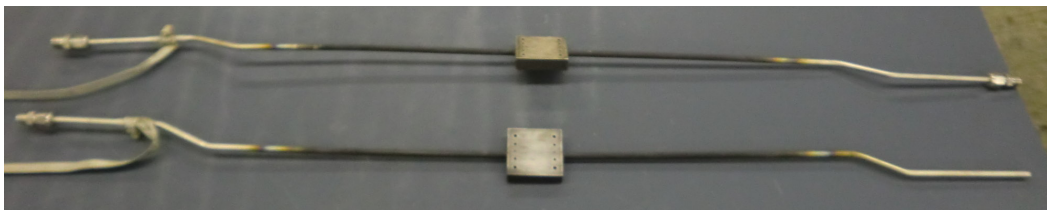

Figure 6
4. Before first use with a cell, the manifolds should be fired to the intended test operation temperature for approximately two hours in order to burn out any residues from manufacturing and to create a protective oxide coating on the cathode manifold. Figure 6 shows fully prepared and fired manifolds.